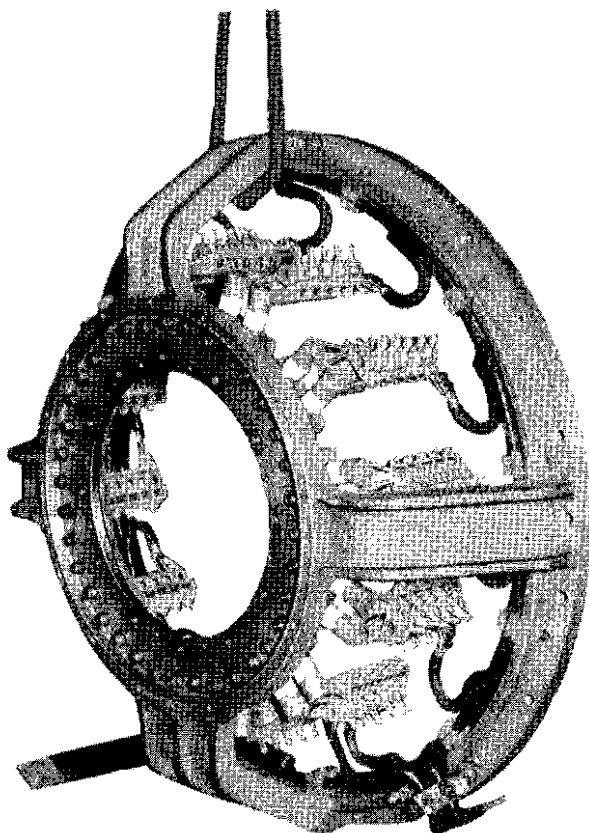

Fig. 8 - End Bell & Brush Holder Assembly
4. Care must be taken, when brush holders are removed or replaced, that the cutting from the lock washer does not fall on the commutator and become lost among the other brush holders or brushes. Fig. 8 shows end bell and brush holder assembly.